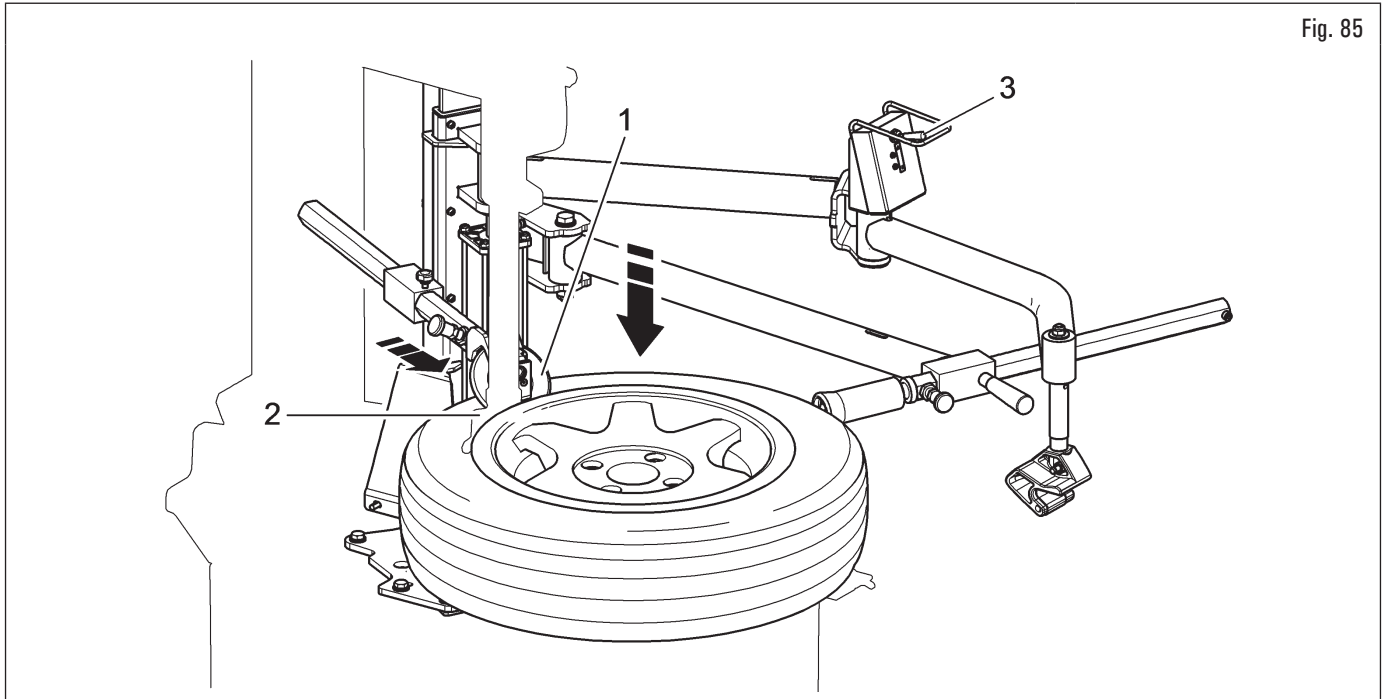

Fig. 85
6. place the tilted bead press disc (Fig. 85 ref. 1), as shown in figure, near the toolhead (Fig. 85 ref. 2). Lower the tyre using the tilted bead press disc (Fig. 85 ref. 1) (lowering the relevant lever of the control unit (Fig. 85 ref. 3)), to allow an easy positioning of the toolhead on the rim edge (Fig. 85 ref. 2). Then block the toolhead;
8. lift the device by moving the corresponding lever upwards (Fig. 85 ref. 3); then move the tilted bead press disc backward (Fig. 85 ref. 1) to avoid interferences with the tyre;